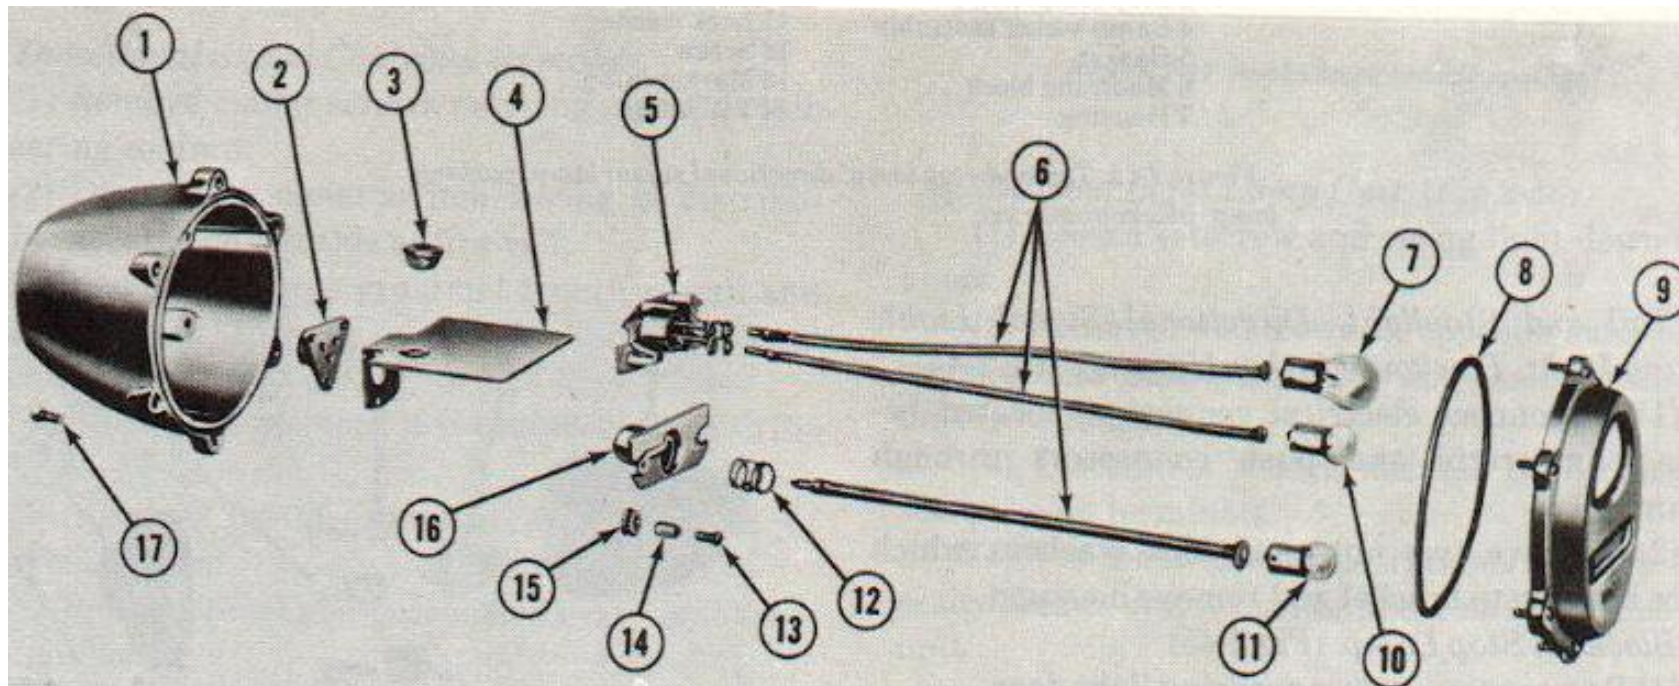

Figure 2-43. Blackout marker, parking and signal light — exploded view.
- (1) Remove 6 screws which secure door and lens to housing and remove door, lens, and seal gasket.
- (2) Turn lamps counter-clockwise and remove from sockets.
h. Blackout Marker, Parking Light and Turn Signal Housing. (Fig 2-43)
- (1) Disconnect electrical connectors and rear of housing.
- (2) Remove two bolts and washers which secure housing to radiator support panel and remove housing.